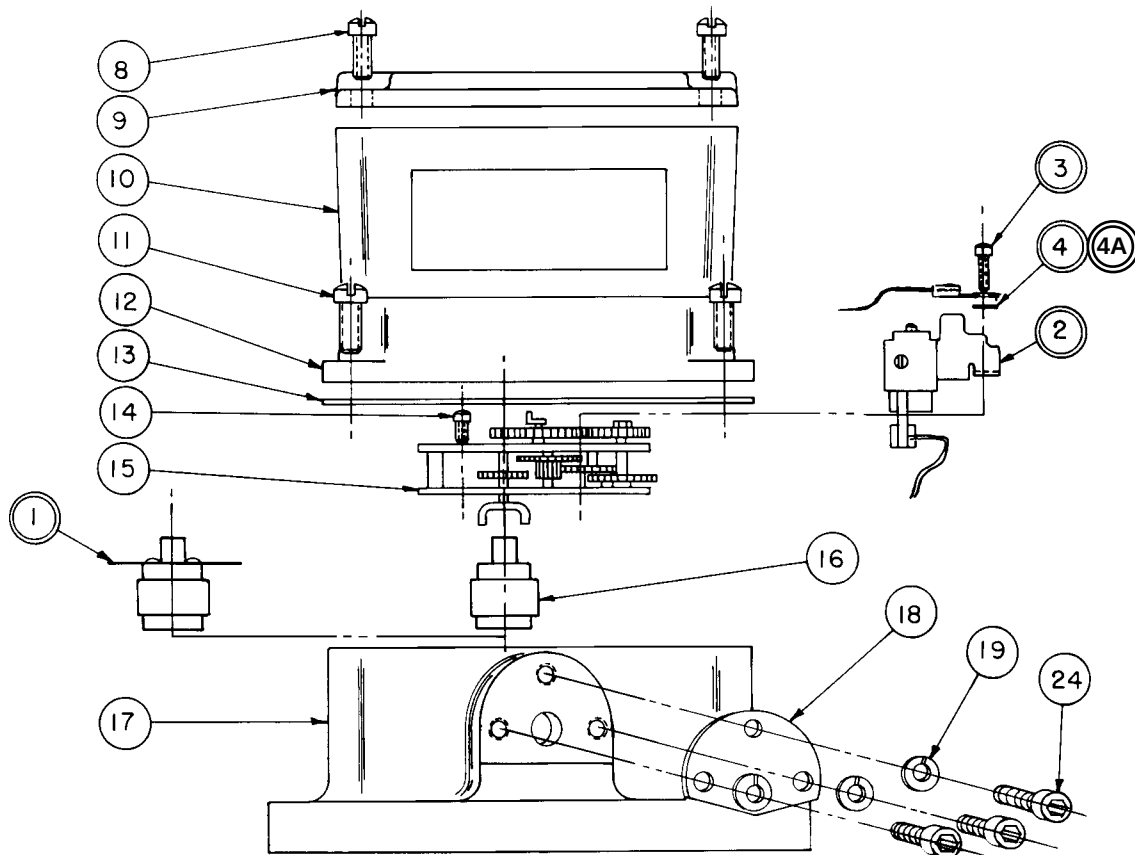
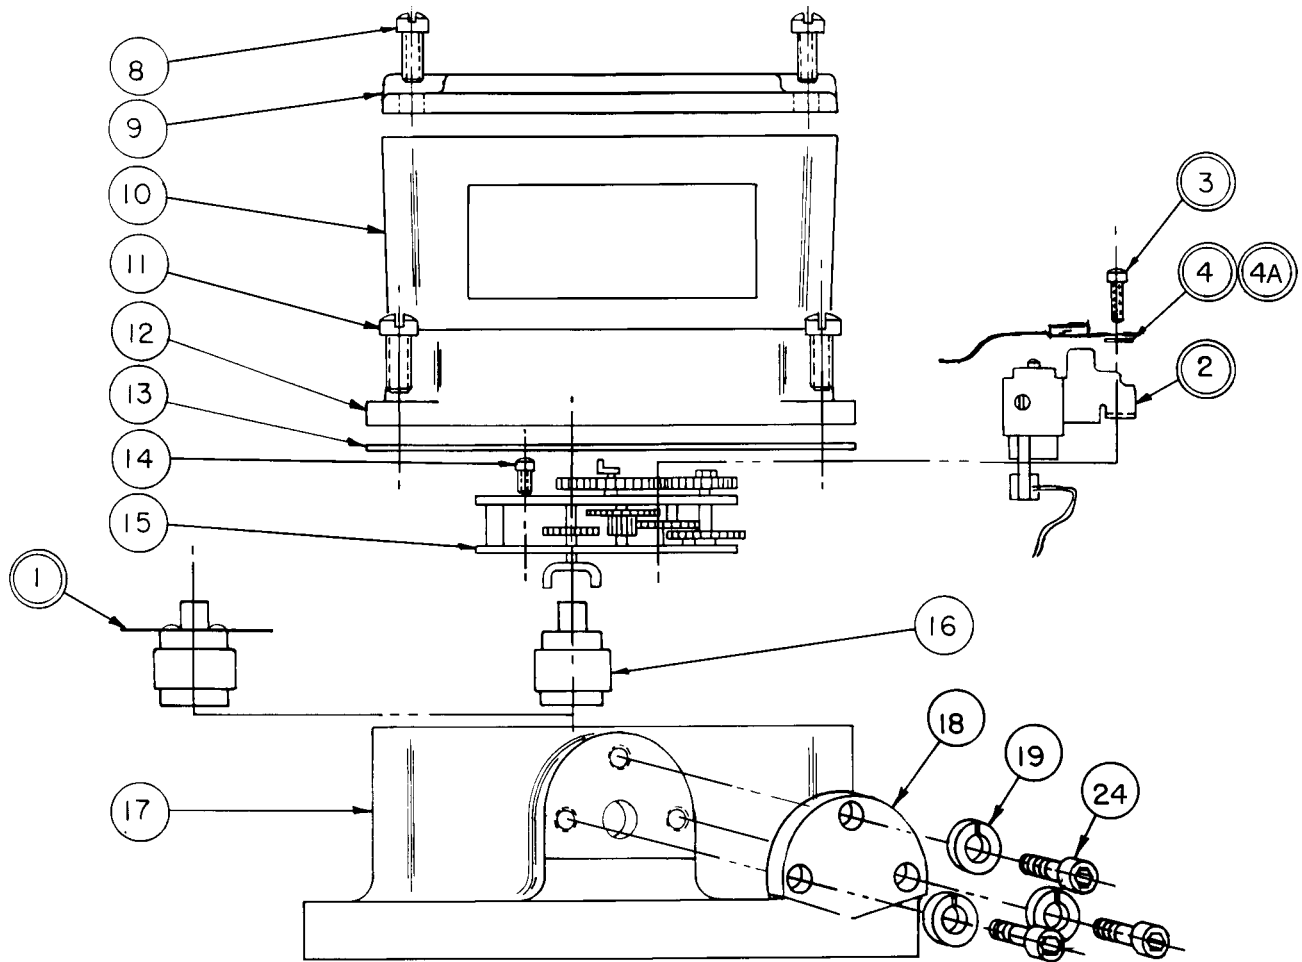

FIGURE 1
FIGURE 5
* Refer to call-out number on drawings Figures 1, 2, 3, and 4 for conduit assembly, and Figures 5, 6, 7, and 8 for plug-in assembly.
Disassembly (Refer to Figure 1 or 5)
Reassembly (Refer to Figure 1 or 5)
- 5 **For Conduit Connector (Figures 1,2,3, and 4):**
- a. For top plates with three hold probe connection drilling: assemble the flange adapter (6A) with the three lock washers (19) and cap screws (24). Then insert the short end of the wire of the $\frac{1}{2}$ " NPT conduit/wire adapter (5A) through the probe hole and screw the connection tight.
For Plug-in Connector (Figures 5,6,7, and 8):